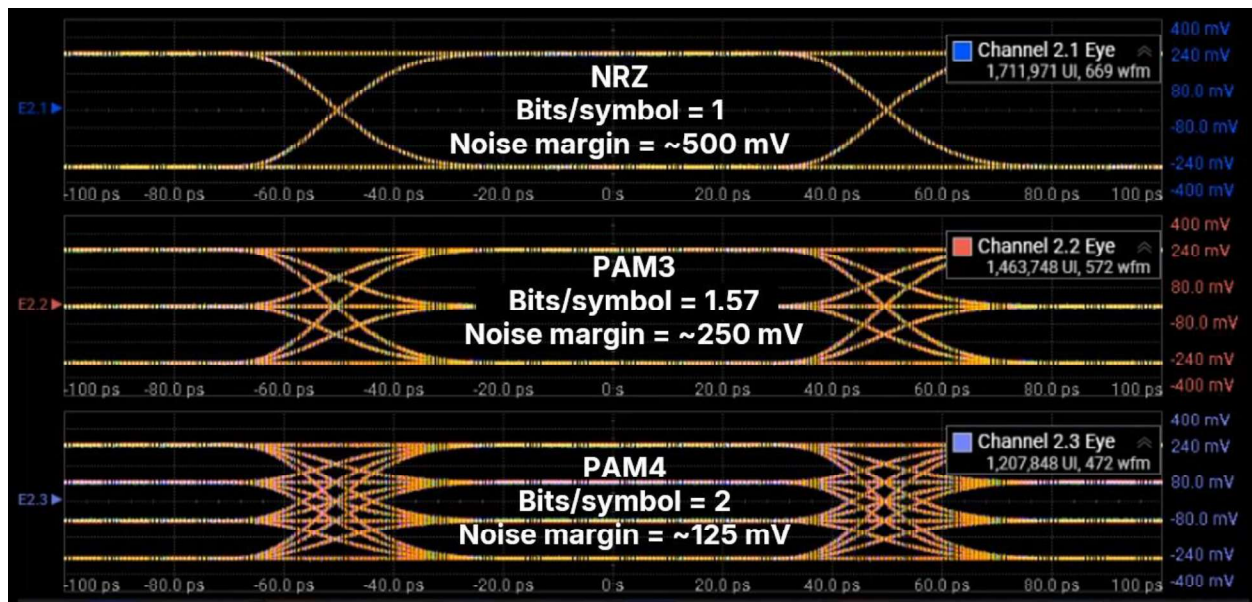

Figure 3. Reduced vertical eye height from multilevel modulation
- **Reduced vertical eye height:** Multilevel modulation compresses the voltage levels between symbol states, increasing susceptibility to vertical noise and making eye closure harder to detect (Figure 3). New specifications like SNDR have been added to standards like USB4v2 to better characterize these issues.